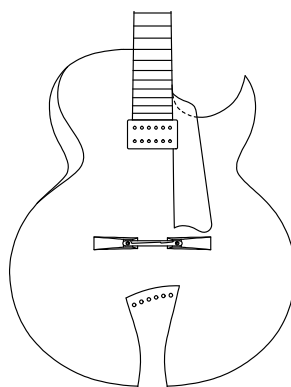

Figure 9 - Some pointed cutaways don't get along very well with the pickguard
- Another problem is that the pickguard section ahead of the pickup might be too large (Figure 9), causing the cutaway to be *behind* it. If this happens, the player's hand will be restricted, not by the cutaway itself, but by the pickguard, which is undesirable. Some wood can be removed from the forward end of the pickguard, but it's limited to around three millimeters before you start to cut the bracket cavity. Cases that fall outside these adjustments would be quite marginal with rounded cutaways; In any case, there could be problems with some guitars that have pointed cutaways, such as the guitar in Figure 9, which seems particularly unsuitable for this kit.